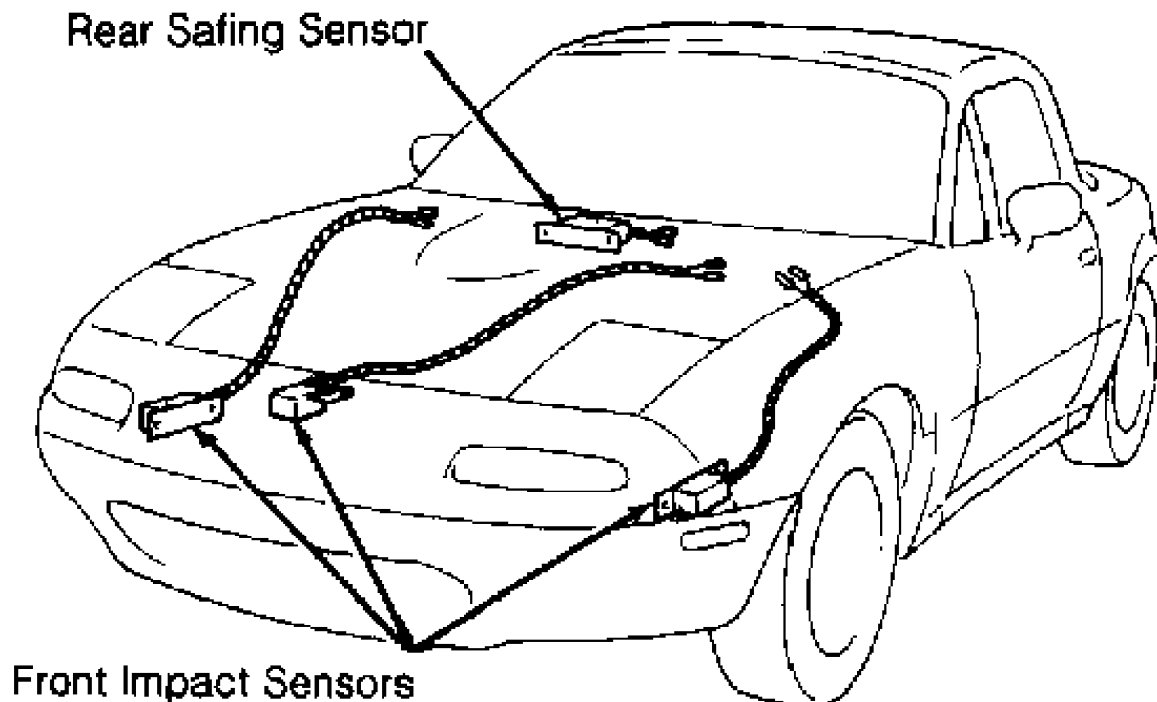

Fig. 2: Locating Crash Sensors (Miata)
2) Front impact sensors are located in left front and right front of vehicle. See Fig. 2 or 3. To remove left or right sensor, remove wheelwell undercover, and disconnect connector(s). Remove retaining clips and bolts. Remove sensor(s).
Before proceeding, follow air bag service precautions. See SERVICE PRECAUTIONS. Disable air bag system. See DISABLING & ACTIVATING AIR BAG SYSTEM. Rear safing sensor is located under center of instrument panel. Remove instrument panel. Locate and disconnect safing sensor connectors. See Fig. 2 or 3. Remove sensor and cover.